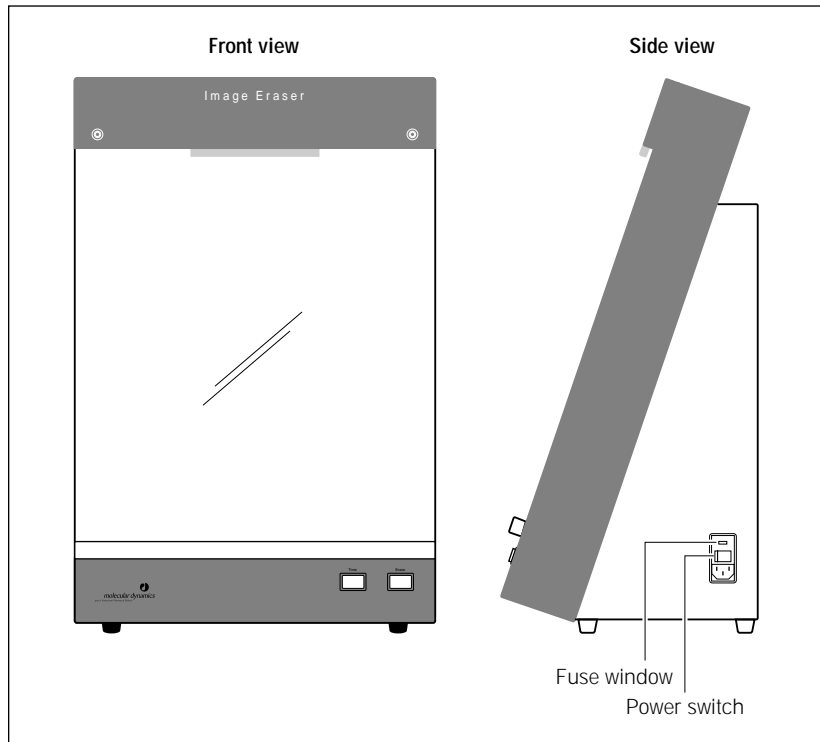

Figure 14-1. The Image Eraser.
1. Turn off the Image Eraser and disconnect the power cord (figure 14-1).
7. Reconnect the power cord and turn on the Image Eraser (figure 14-1).
You can use the Image Eraser with either a 220–240 V (230 V) power source or a 100–120 V (115 V) power source. The selected operating voltage of the Image Eraser appears in the fuse window on the lower right side of the eraser, next to the power switch (figure 14-1).
9. Reconnect the power cord and turn on the Image Eraser (figure 14-1).